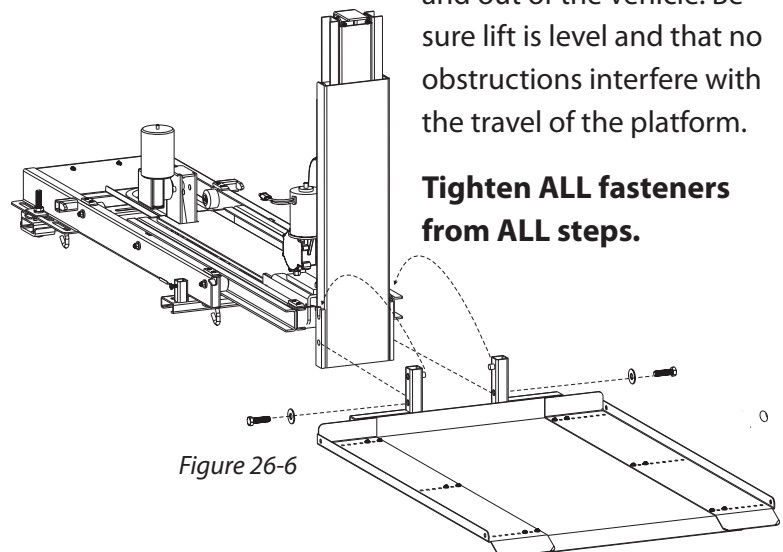

Figure 26-6
10. Install 1/2-13 x 1-3/4" Hex head Bolts and 1/2" flat washers into threaded holes as shown. [Figure 26-6]